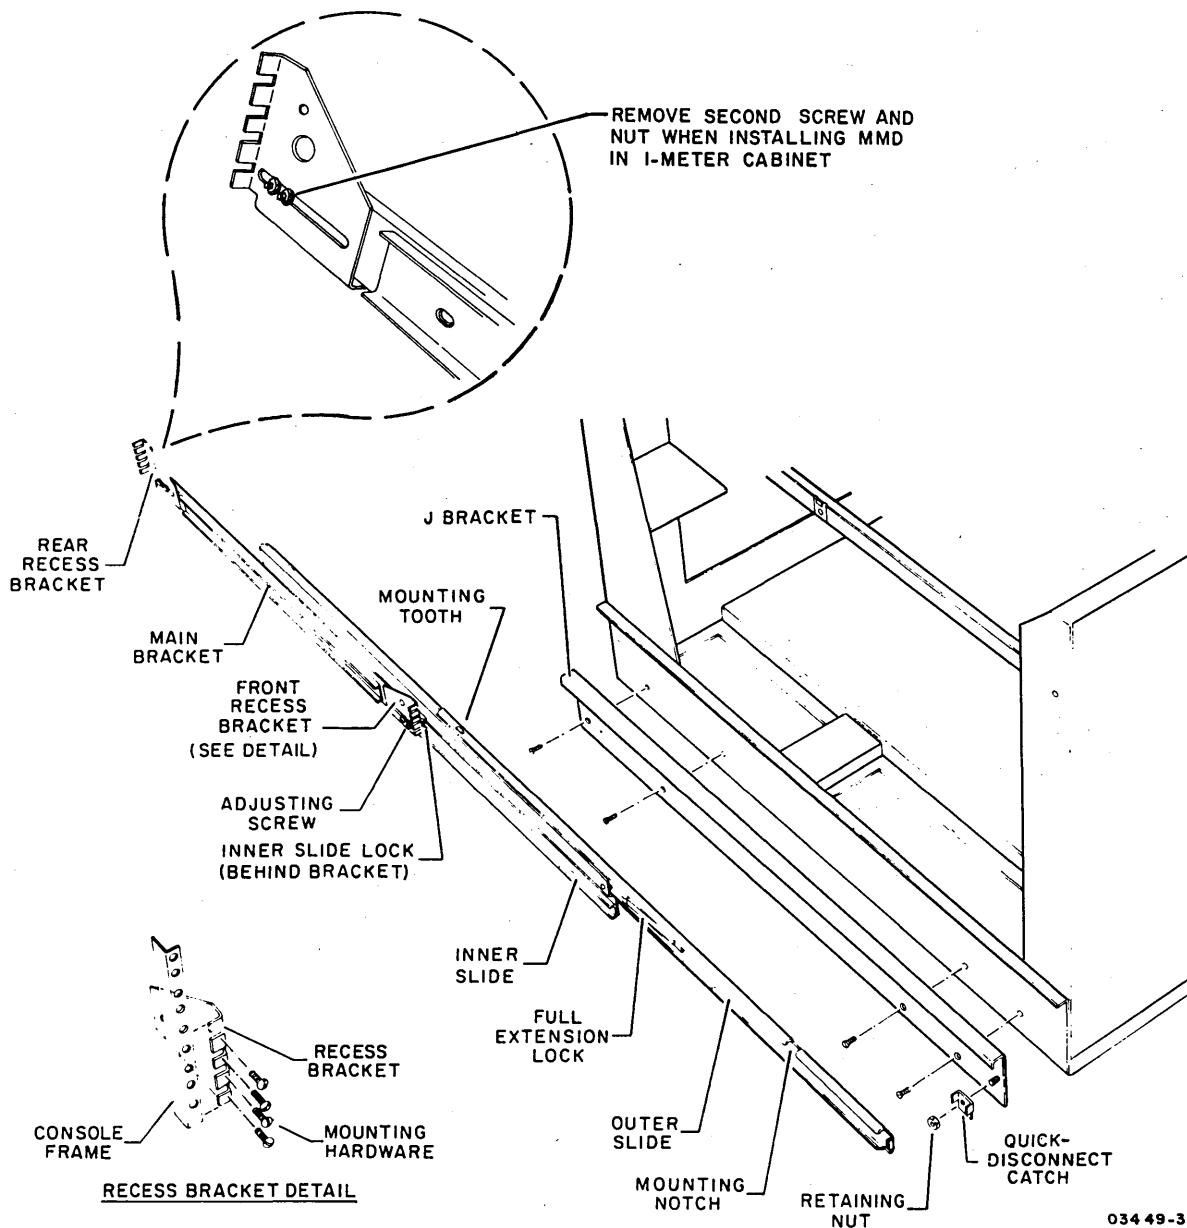

Figure 2-1. Slide Assembly Details
2. Loosen front and rear recess bracket adjusting screws on slide assemblies (see figure 2-1).
- If MMD is to be installed in a 1-meter cabinet, remove the innermost or second adjusting screw and nut from the rear recess bracket. See figure 2-1. This allows clearance that is needed to assemble the recess bracket to cabinet frame.
7. Pull both slide assemblies to their fully extended position. Make sure that full extension lock and inner slide lock on each slide assembly are locked (see figure 2-1).